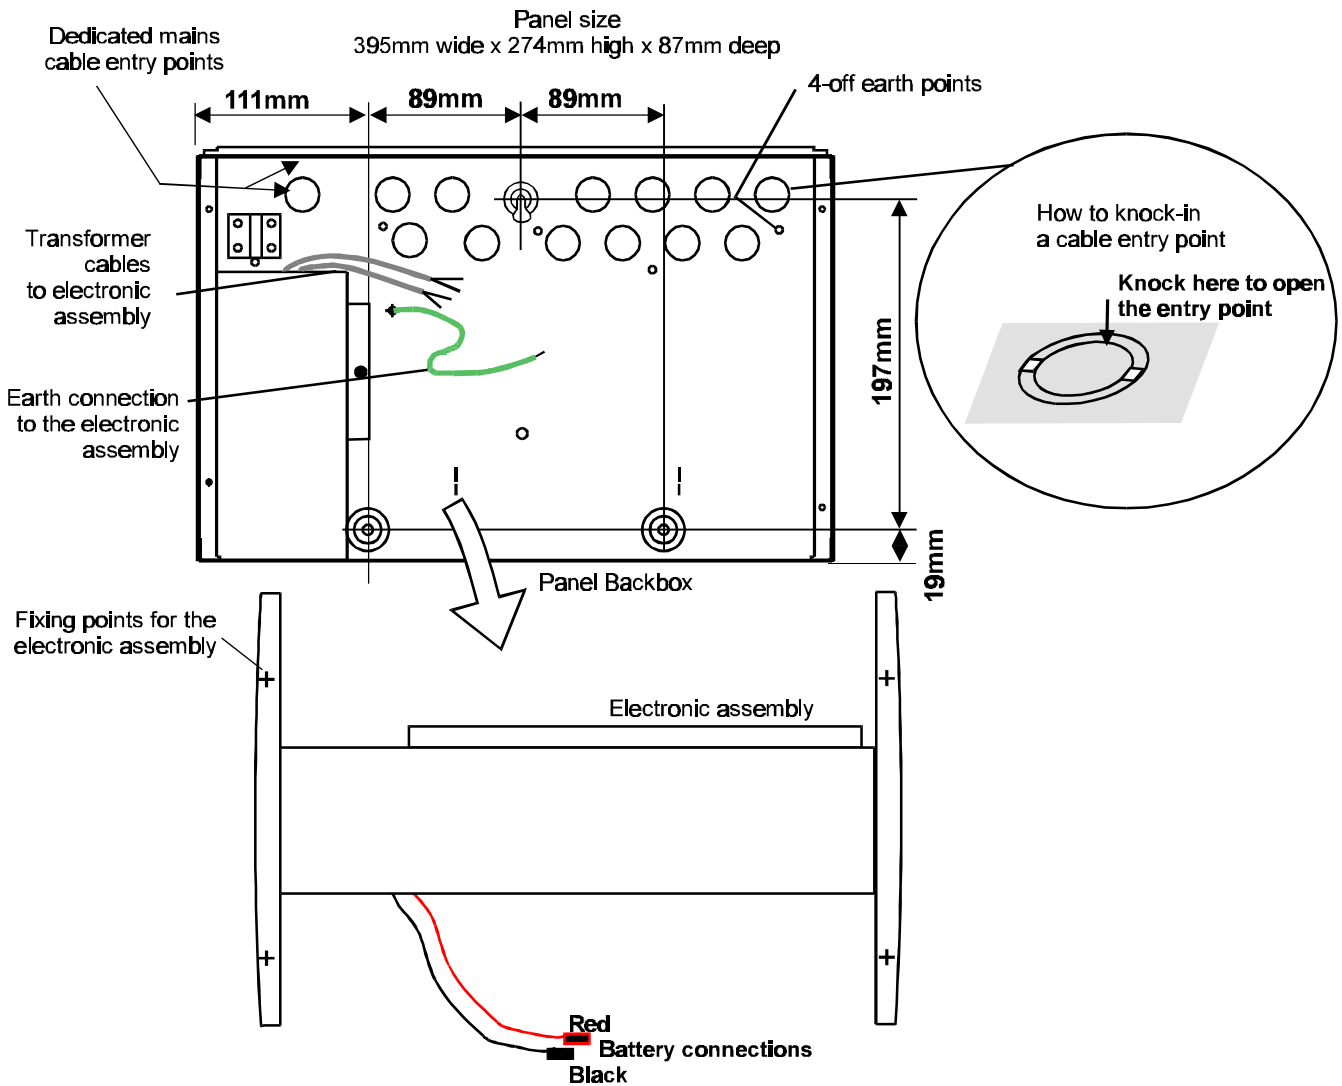

Figure 11 Panel fixings
- d) Remove the transformer and earth connections from the *electronic assembly*, and then remove the electronic assembly from the panel, see Figure 11. Store the electronic assembly in a safe place until required.
- f) Hold the panel on the wall in the desired mounting position and mark the positions of the fixing holes. See *Figure 11* for case fixing details.
- j) Refit the *electronic assembly* into the panel and connect the transformer and earth cables previously removed, see Figure 11.